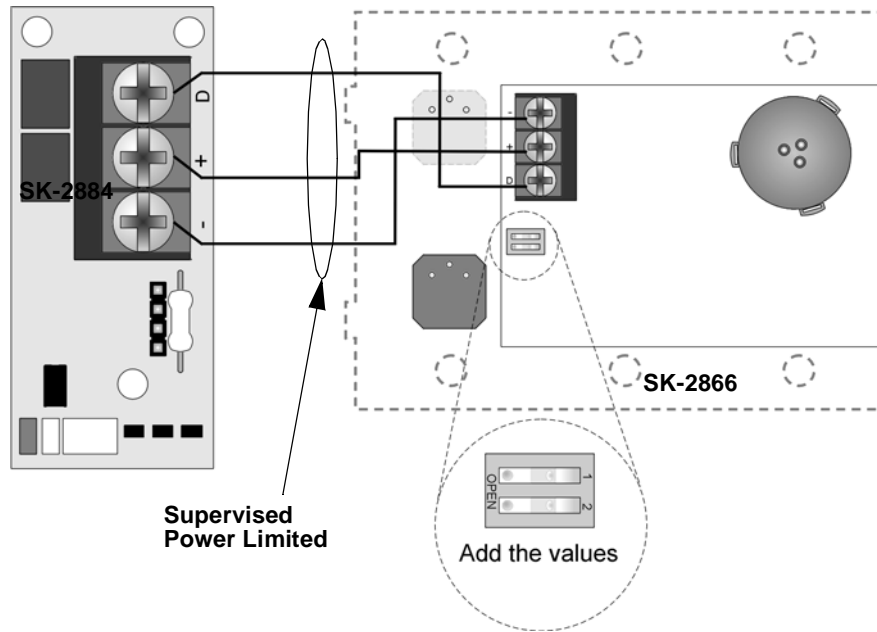

Figure 4-11 SK-2866 Connection to the SK-2884
3. Terminate the wiring as shown in Figure 4-11. See also Table 4-2.
The range of valid addresses is 0-3. Each device requires a unique address. Set the DIP switches as shown in Table 4-3. See also Figure 4-11.
1. Make sure that the SK-2866 is properly wired to the control panel. See Figure 4-11.